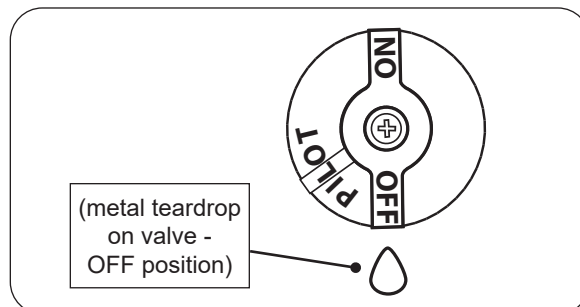

Fig. 23-2 Pilot shut down
2. Locate the valve on the side of the unit. Push in the gas control knob slightly and turn clockwise ↻ to **OFF** (see Fig. 23-2).
Push in the control knob slightly and turn clockwise ↻ to **OFF**. Do not force. See Fig. 23-2.